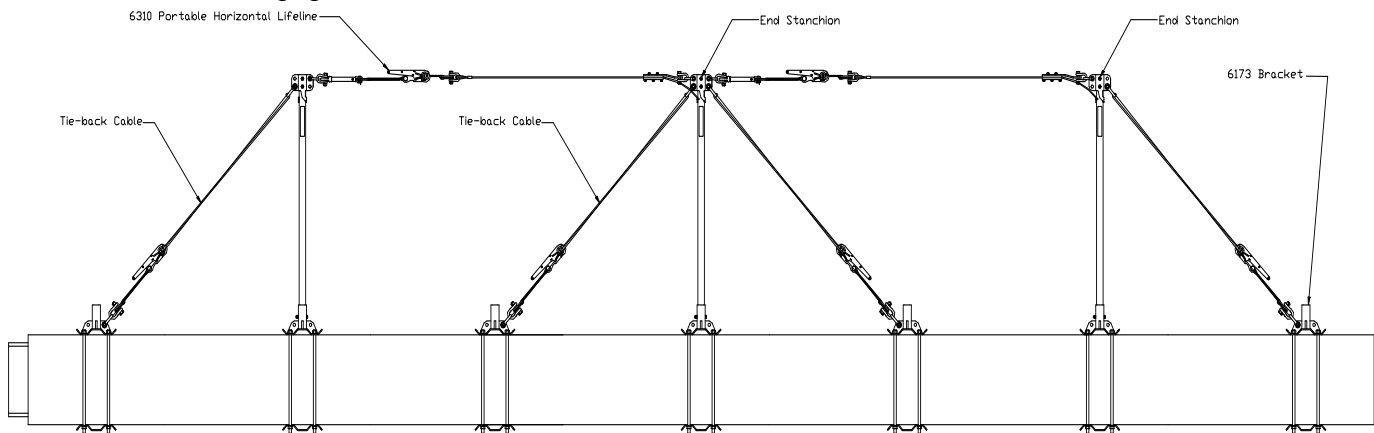

Figure 11 - Layout of a Multiple Lifeline System
The above procedure describes the method for installing a single horizontal lifeline. It is also possible to install a continuous run of multiple horizontal lifelines that share common end stanchions provided they are installed in a generally straight line with one another (see Figure 11). For end stanchions located in the center of the lifeline run (where a lifeline will be attached on both sides of the stanchion), the horizontal lifelines should be attached to the top holes of the end stanchion. A single tie-back strap is then attached to the bottom hole of the stanchion on both sides of the stanchion. These tie-back straps should be evenly tensioned to ensure that the stanchion is kept vertical. Please contact Reliance Engineering at (303) 424-8650 with any questions concerning the arrangement or installation of horizontal lifeline equipment.